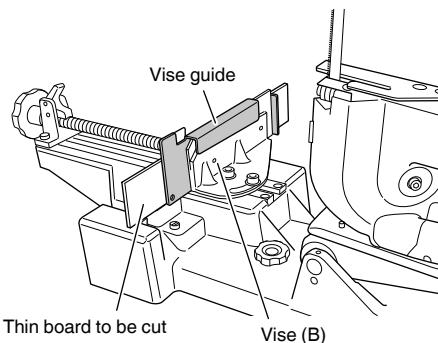

Fig. 13
When cutting a thin or small diameter workpiece, place the vise guide supplied as a standard accessory onto the top of vise (B) to reduce the clearance between the band saw blade and the vise guide. (Fig. 13)